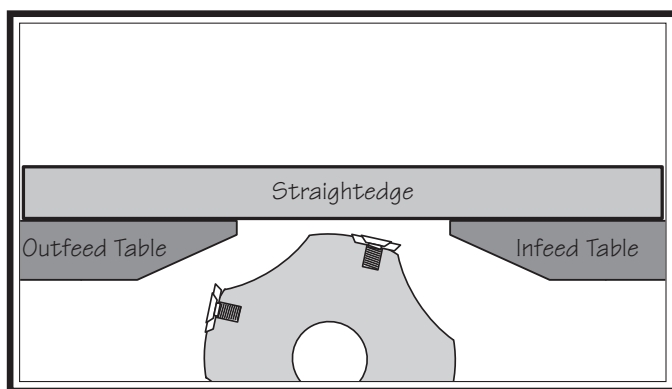

Figure 43. Infeed and outfeed tables set even.
4. Place straightedge halfway across infeed table and halfway over outfeed table, and adjust infeed table even with outfeed table, as shown in **Figure 43**.